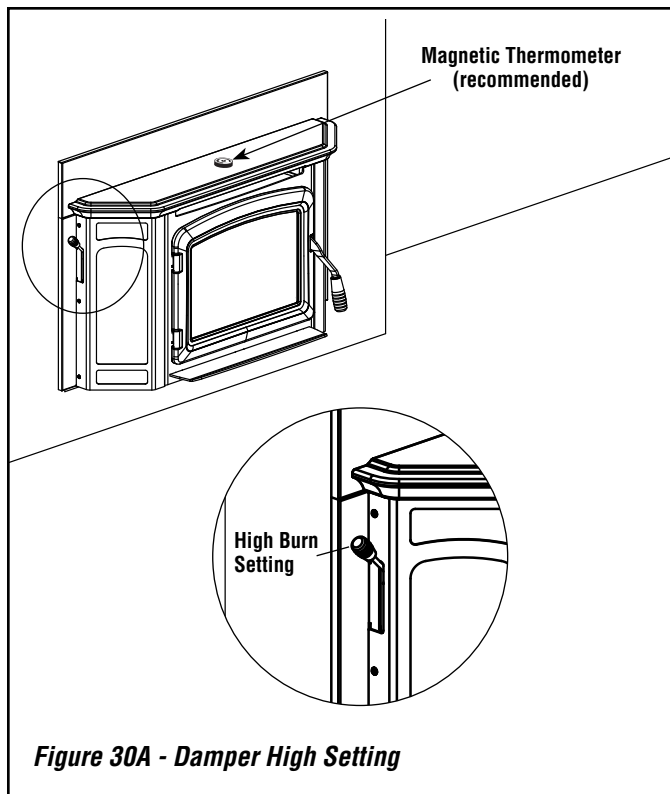

Figure 30A - Damper High Setting
5. When operating any wood burning appliance, it is important to become familiar with how the damper control affects heat output and the overall temperature of the appliance. A stove thermometer can be a helpful tool to help ensure you are not over-firing your appliance and it will also ensure you are burning fuel at a rate that is most efficient. Place a stove thermometer on the top of the appliance as shown in **Figure 30A**. Monitor the temperature every 15 minutes or so until you become more familiar with your appliance. Close the damper all the way down if you begin to reach 400 degrees, as this is a sign that you are operating your appliance at too high a temperature.